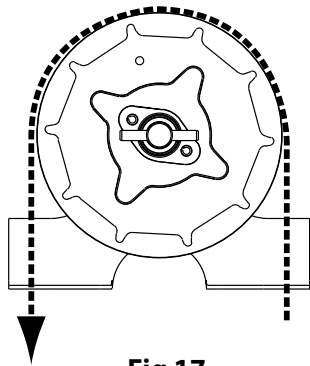

Fig 17
- 1) Route the hand chain through the chain guide, around the pocket wheel and back through the chain guide. Fig. 17